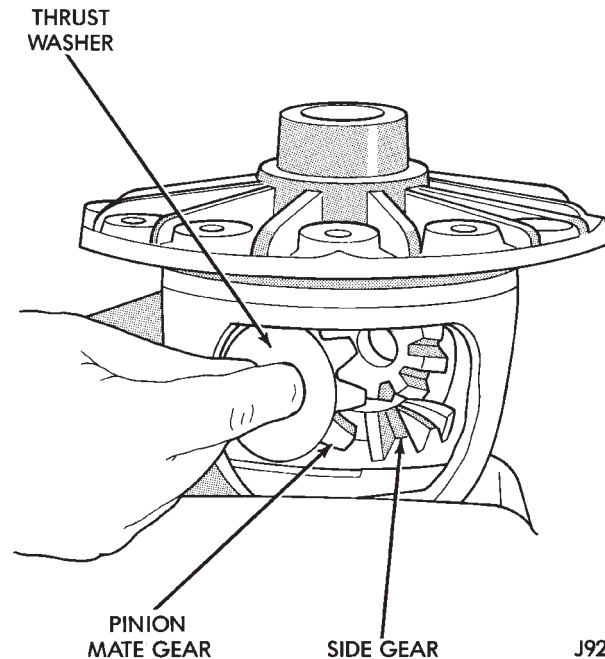

Fig. 39 Pinion Mate Gear Removal
- (1) Remove pinion gear mate shaft.
- (2) Rotate the differential side gears and remove the pinion mate gears and thrust washers (Fig. 39).
- (3) Remove the differential side gears and thrust washers.